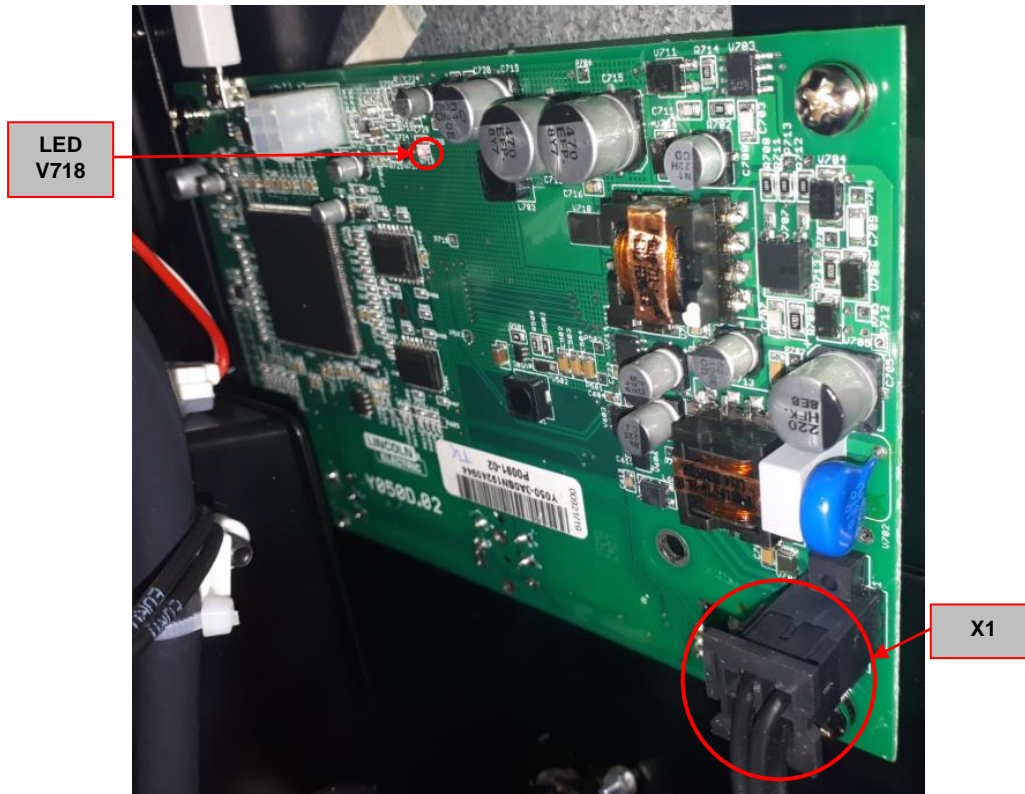

Figure 1 – PF 56D User Interface component
2. Follow the **PF56D** User Interface removal procedure available inside this manual to get access to the connector X1. See **Figure 1**.
3. Do not unplug the User Interface board from the Power Feeder. Keep it connected as indicated in **Figure 1**.